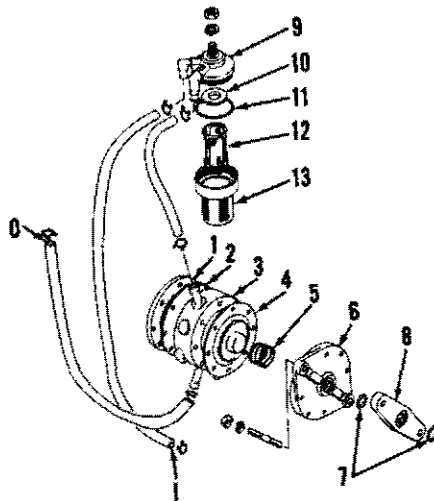

Fig. SZ14-5—Exploded view of diaphragm type fuel pump and fuel filter assemblies.
FUEL PUMP. A diaphragm type fuel pump is mounted on the side of power head cylinder block and is actuated by pressure and vacuum pulsations from the engine crankcases. Refer to Fig. SZ14-5 for exploded view of fuel pump assembly.
FUEL FILTER. A fuel filter (9 through 13—Fig. SZ14-5) is mounted on the side of power head cylinder block on all models. Filter should be disassembled and cleaned after every 50 hours of use. Renew "O" ring (11) if required.